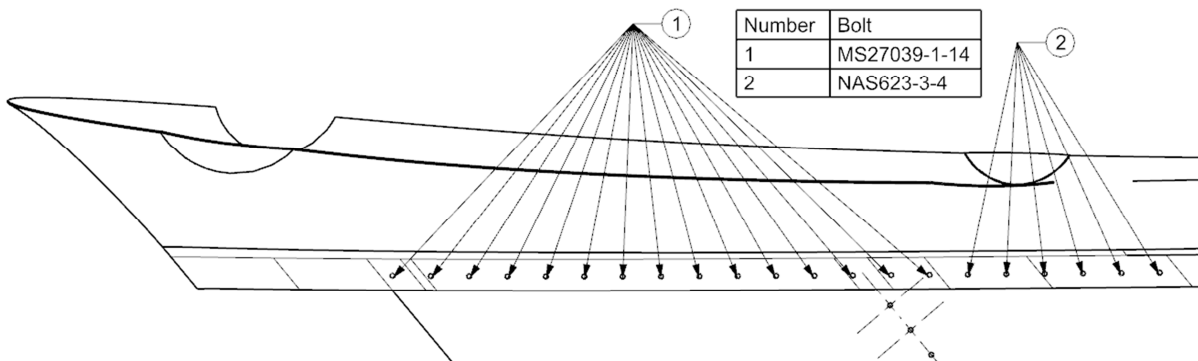
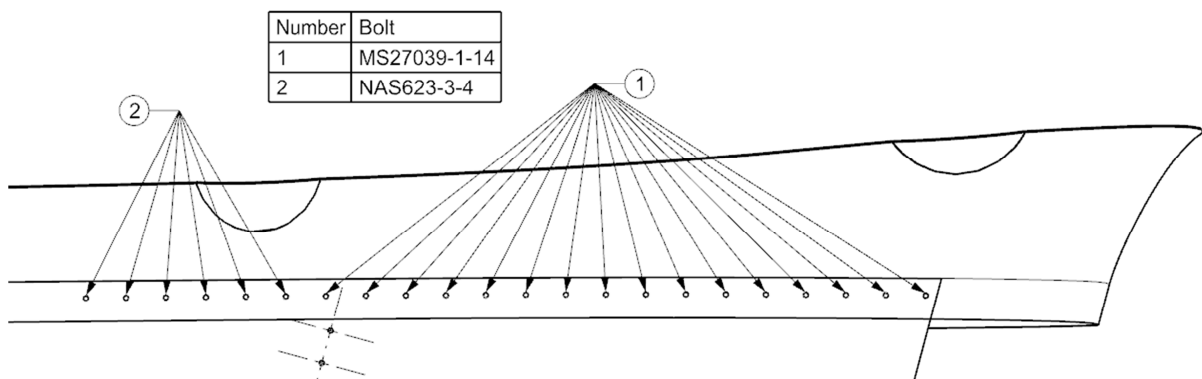
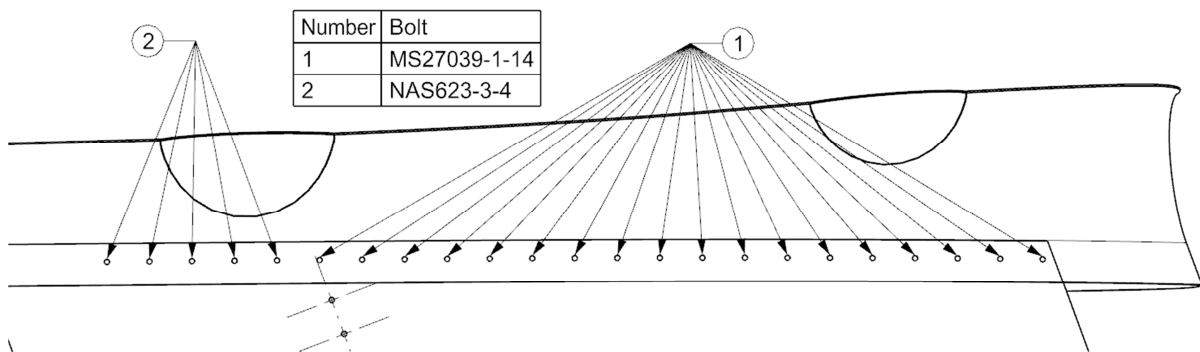

Figure 2-7: Inboard Wing Pylon Aerodynamic Fairing Fastener Placement
Figure 2-8: Center Wing Pylon Aerodynamic Fairing Fastener Placement
Figure 2-9: Outboard Wing Pylon Aerodynamic Fairing Fastener Placement
10. Attach the forward half of the aerodynamic fairing of step 8/9 to the wing array pylon using MS27039-1-14 fasteners as can be seen in Figure 2-8.
14. Attach the forward half of the aerodynamic fairing of step 12/13 to the wing array pylons using MS27039-1-14 fasteners as can be seen in Figure 2-9.
18. Attach the forward half of the aerodynamic fairing of step 16/17 to the wing array pylons using MS27039-1-14 fasteners as can be seen in Figure 2-7.
20. Attach the aft half of the aerodynamic fairings to the wing array pylons using MS27039-1-14 and NAS623-3-4 fasteners as per Figure 2-7, Figure 2-8, and Figure 2-9.
7. Remove the center ratchets straps and related eyebolts, and install the outermost bolts on each of UWB-ICE-07-503, UWB-ICE-07-504, per Figure 2-7, using torque values from Table 1-1.
11. Remove the outboard ratchets straps and related eyebolts, and install the outboard bolt on UWB-ICE-06-504, per Figure 2-7, using torque values from Table 1-1.
15. Remove the inboard ratchets straps and related eyebolts, and install the outermost bolts on each of UWB-ICE-08-503 and UWB-ICE-08-504 per Figure 2-7, using torque values from Table 1-1.